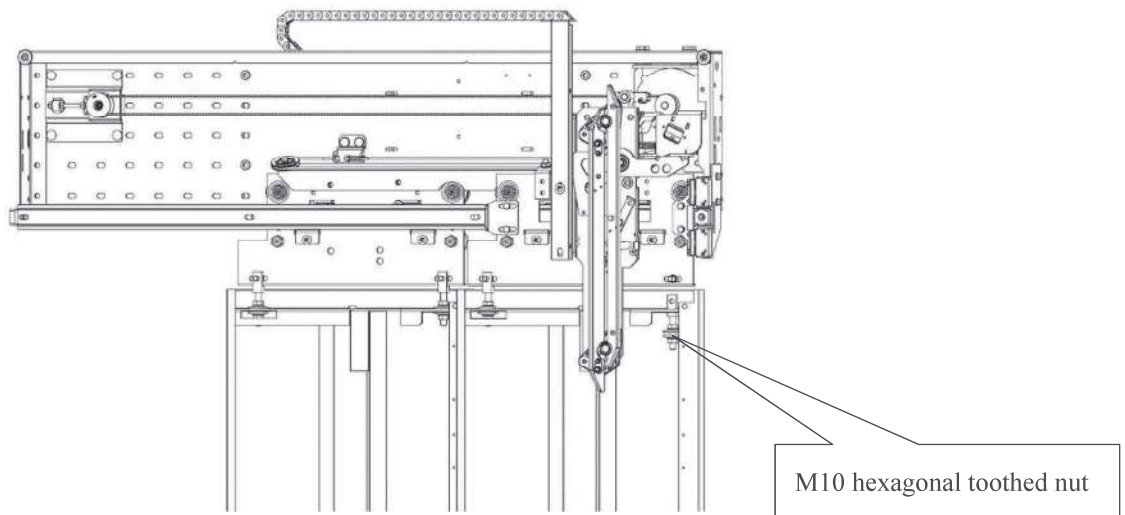

Figure 5-4-3 Adjustment of vertical and horizontal positions of the car door panels
- b) Vertical adjustment and gap adjustment: Loosen the M10 hexagonal toothed nut on the hanging bolt assembly. Adjust the vertical and horizontal position of the two door panels separately, as shown in Figure 5-4-3.